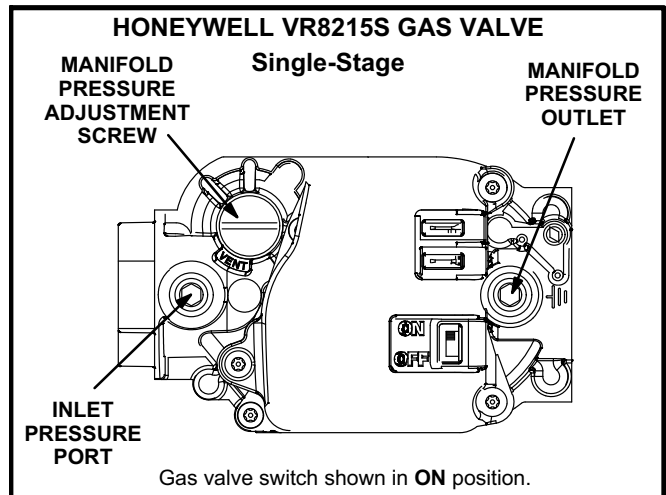

FIGURE 26
Gas Valve Operation (figure 26, 27, or 28)
- 5- Move gas valve switch to **OFF**. See figure 26 or 27.
- 6- Wait five (5) minutes to clear out any gas. If you then smell gas, **STOP!** Immediately call your gas supplier from a neighbor's phone. Follow the gas supplier's instructions. If you do not smell gas, go to the next step.
- 7- Move gas valve switch to **ON**. See figure 26 or 27.